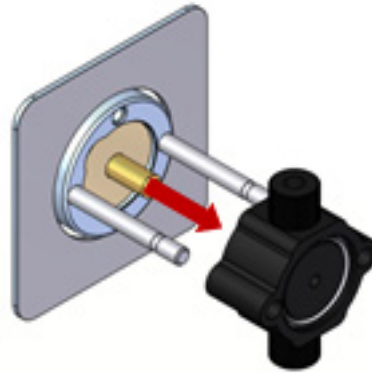

Figure 6-11 Removing the pump spacer block
10. Carefully pull the pump spacer block forward and off the guide pins. Pull straight and slowly to prevent damage to the piston. Also, remove the guide bushing from the piston if it did not stay in the pump spacer block (Figure 6-11).